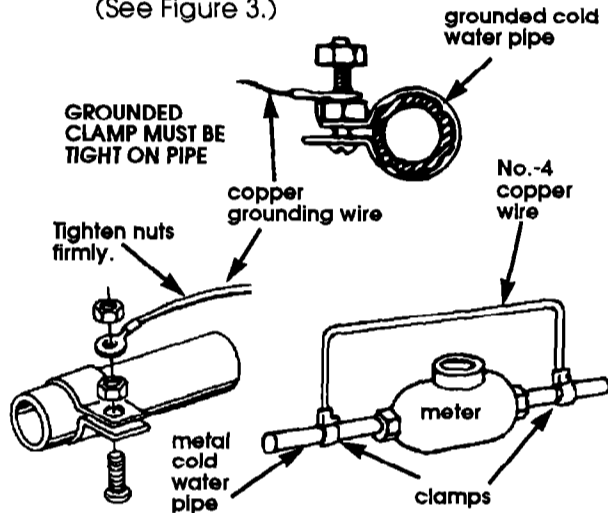

Figure 3
6. Connect the green (or bare) wire to a grounded cold water pipe* (or to the grounded lead in the service panel). **Do Not ground to a gas supply pipe or hot water pipe.** Do Not connect to electrical supply until appliance is permanently grounded. (See Figure 3.)